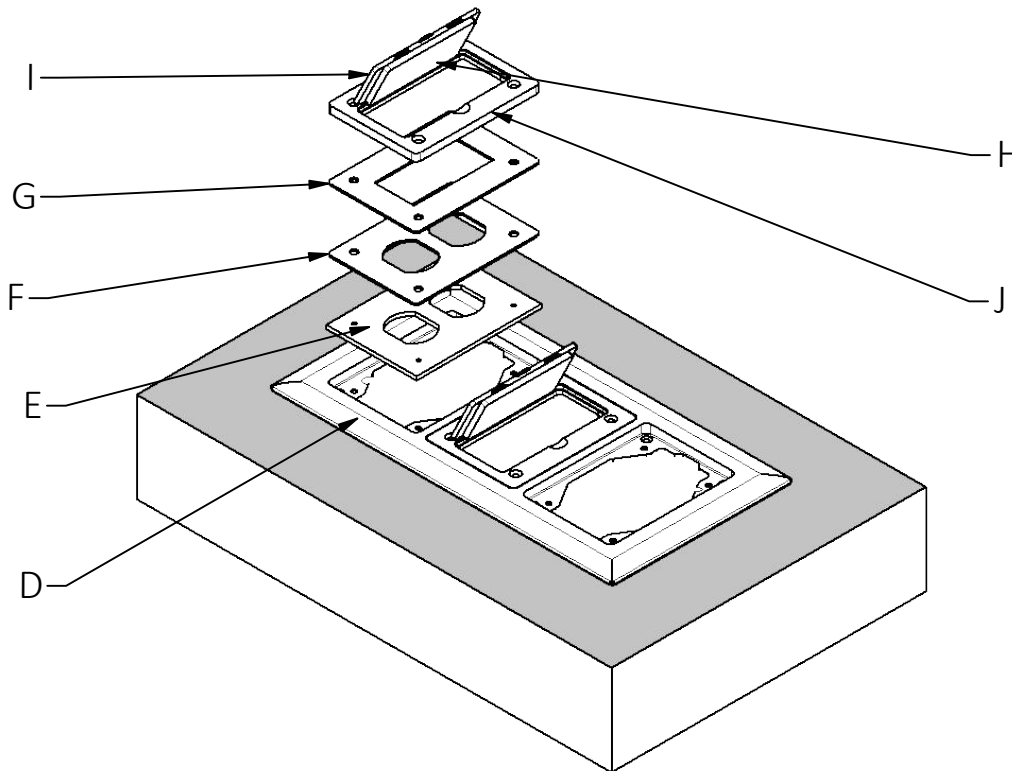

FIG.3
8. Place device gasket E over device. (FIG. 3)
11. Secure cover door J to the flange D with (4) 6-32 screws provided. Torque to 10-12 lbf-in (1.1 - 1.4 N•m).
8. Mettre le joint E sur le dispositif. (FIG. 3)
8. Coloque la junta del disp. ositivo E sobre el dispositivo. (FIG. 3)